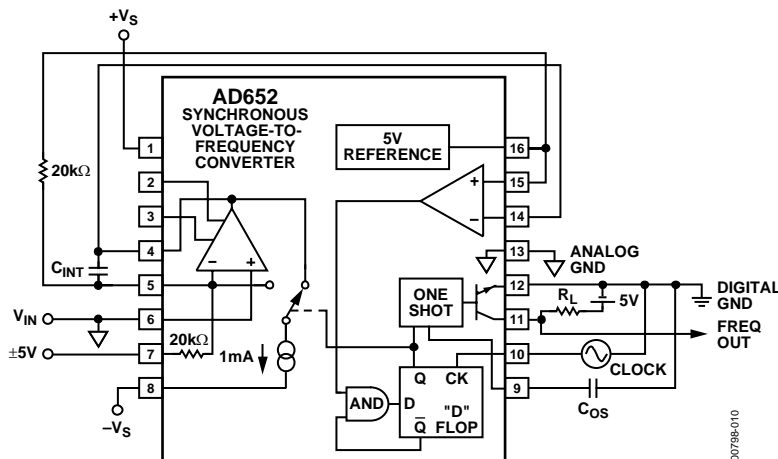

Figure 10. Bipolar Offset
A bipolar input voltage of ± 5 V can be accommodated by injecting a $250 \mu\text{A}$ current into Pin 5 (see Figure 10). A -5 V signal provides a zero sum current at the integrator summing junction, which results in a zero-output frequency; a $+5$ V signal provides a 0.5 mA (full-scale) sum current, which results in the full-scale output frequency.
1. Use an external resistor for R_{OS} and the internal $20 \text{ k}\Omega$ resistor for R_{IN} (as shown in Figure 10).